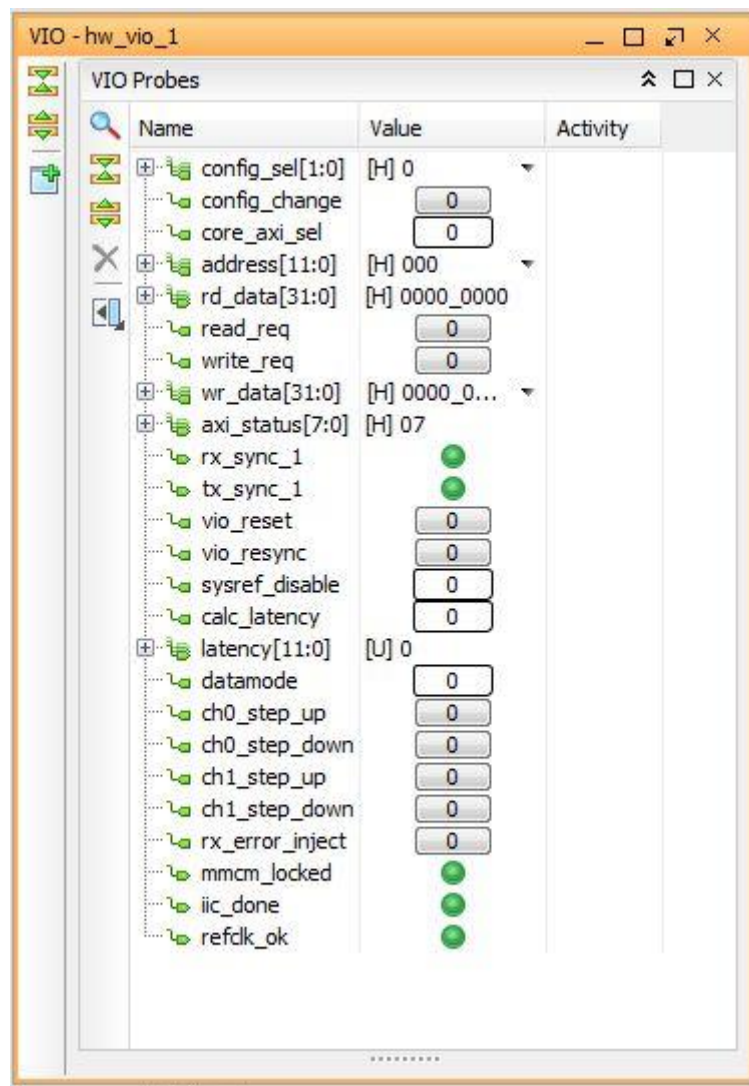

Figure 2 VIO GUI Setup
- Reorder the signals in the VIO console to match that of Figure 2.